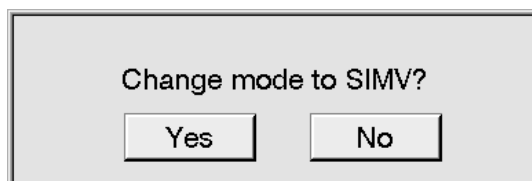

Figure 8-31: Mode Change Confirmation Message
2. The ventilator asks you to confirm the mode change (Figure 8-31). Press YES to confirm, or press NO to leave the mode as is.